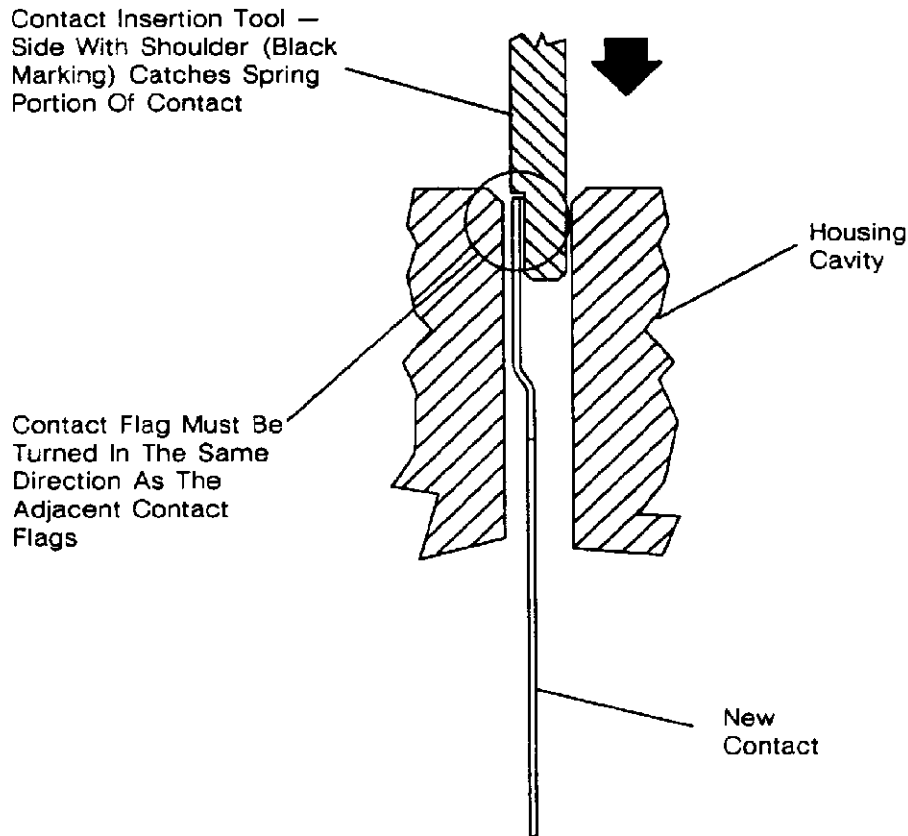

Fig. 7. Inserting A Replacement Contact
4. Insert a replacement contact into the cavity using insertion tool as shown in Figure 7. The top of the contact must be inserted below the top surface of the housing.